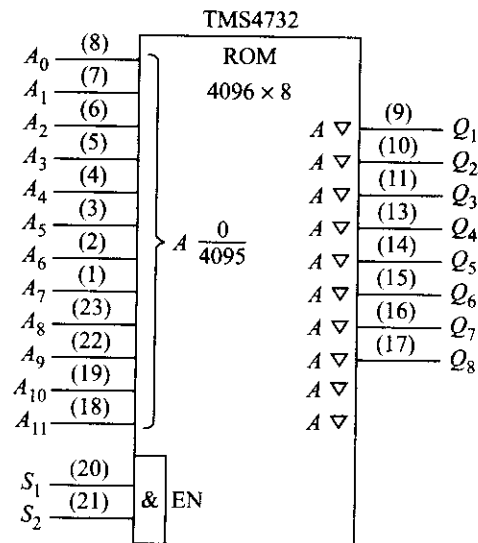

Fig. 13.17
In the case of a ROM, you must supply the manufacturer with the exact memory contents to be stored in the ROM. The Texas Instruments TMS4732 is a ROM having 4096 eight-bit words (a 4096×8 ROM). The logic diagram is given in Fig. 13.17. The 8-bit word length makes this NMOS (*n*-channel MOS) chip ideal for microprocessor applications. Texas Instruments will store user-specified data during manufacturing. The user must supply data storage requirements in accordance with detailed instructions given on the TMS4732 data sheet.
The logic diagram for the Texas Instruments TMS4732, a 4096×8 ROM, is given in Fig. 13.17. Twelve address bits are required, A_0, A_1, \dots, A_{11} ($2^{12} + 4096$). There are two chip-enable inputs, S_1 and S_2 . Both S_1 and S_2 must be high in order to enable the chip. Each of the eight data output lines is a three-state line (the small ∇ symbol). As mentioned previously, this chip is ideal for microprocessor applications because of the 8-bit word length. This ROM is mask-programmable, and data must be specified for the manufacturer before purchase.
13. What is the meaning of the small triangle on each output line of the TMS4732 in Fig. 13.17?